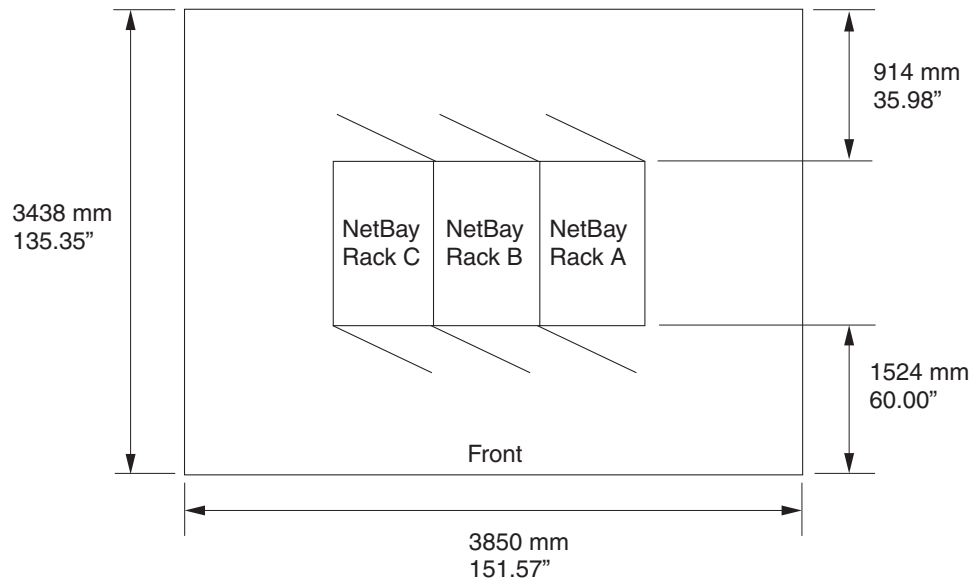

Figure 28. Operational clearances for NetBAY 42 Enterprise rack
Figure 28 shows the required floor space for an IBM NetBAY rack. This diagram shows the space needed to allow enough clearance in the front and rear of the rack to be able to open the doors to access the equipment. Front clearance is needed to have access to the blade servers and the BladeCenter T media tray. Rear clearance is needed to access power supplies, blowers, network cable connections, and attachment of a local monitor, keyboard, and mouse to the management module.
- Floor space that provides adequate access to the front and rear of the rack, and space on both sides of the rack or a row of racks for ventilation and walk through space. See Figure 28 on page 52.